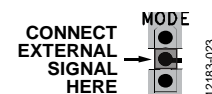

Figure 7. MODE Pin Direct Connection
- Alternatively, connect a voltage between 0 V and 5.5 V to the center pin of the MODE test bus for independent control of the MODE pin voltage (see Figure 7). The MODE pin is logic high when $V_{MODE} \geq 1.20$ V (typical).